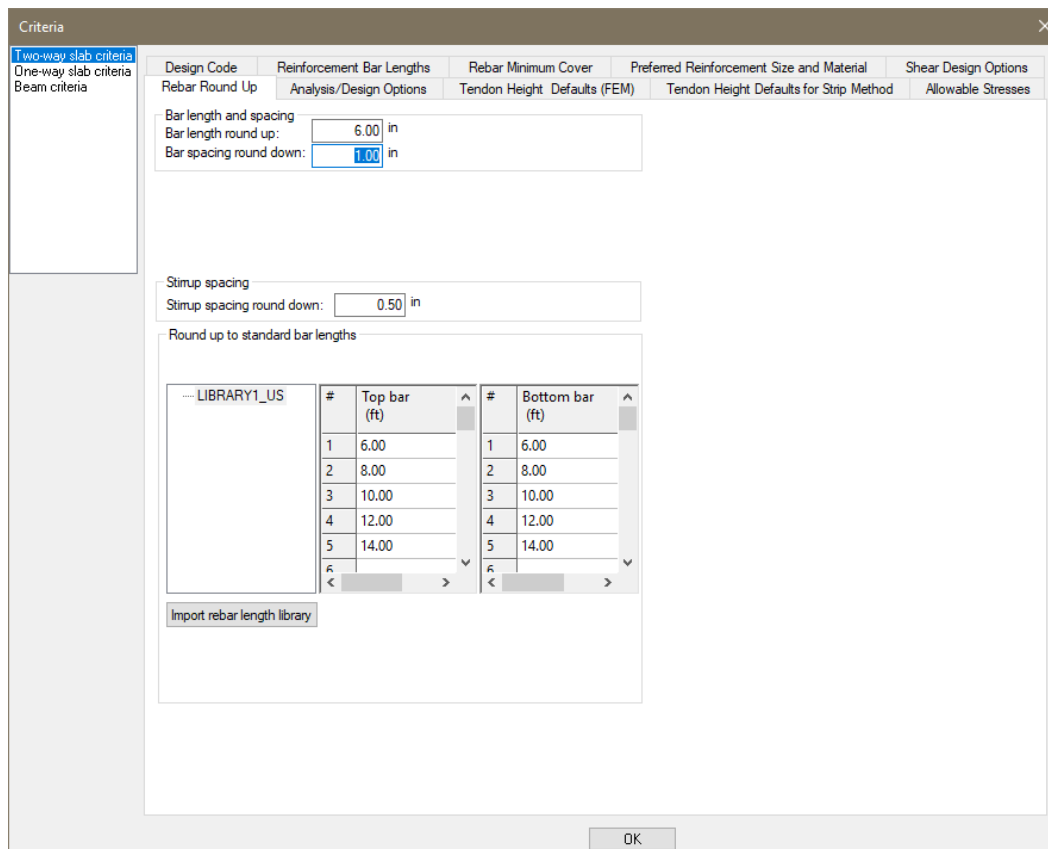

Figure 2-17
- Click on the *Rebar Round Up* tab. This will open the window from **FIGURE 2-17**.